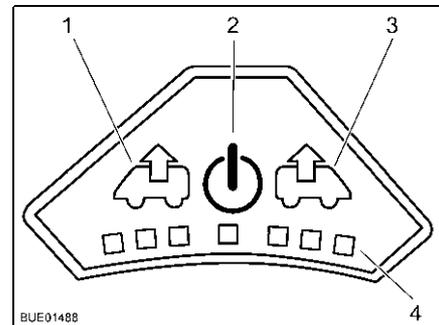

Fig. 134 Control panel for fan
- Press the On/Off button (Fig. 134,2). The fan runs in comfort mode (venting at slowest fan speed).
- To increase the fan speed: Press the Vent button (Fig. 134,1). The fan speed in the venting direction increases by one level. LEDs (Fig. 134,4) show the operating levels.
- To lower the fan speed: Press the Aerate button (Fig. 134,3). The fan speed decreases by one level.
- To increase the fan speed: Press the Aerate button (Fig. 134,3). The fan speed in the aerating direction increases by one step. LEDs (Fig. 134,4) show the operating levels.
- To lower the fan speed: Press the Vent button (Fig. 134,1). The fan speed decreases by one level.
- Press the On/Off button (Fig. 134,2). The fan stops, the LEDs go out.